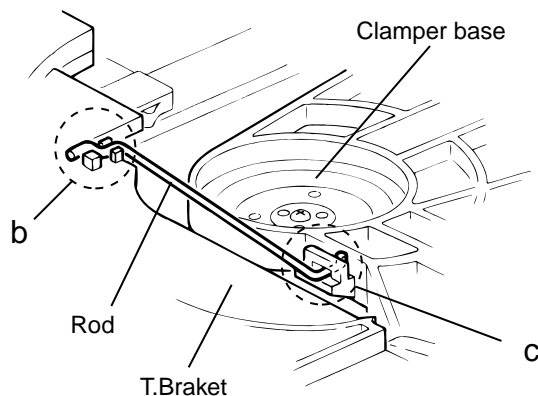

Fig.2
■ Removing the CD tray assembly (See Fig.2~4)
6. From the clamber base section "c", remove both of the edges fixing the rod(See Fig.2 and 3).